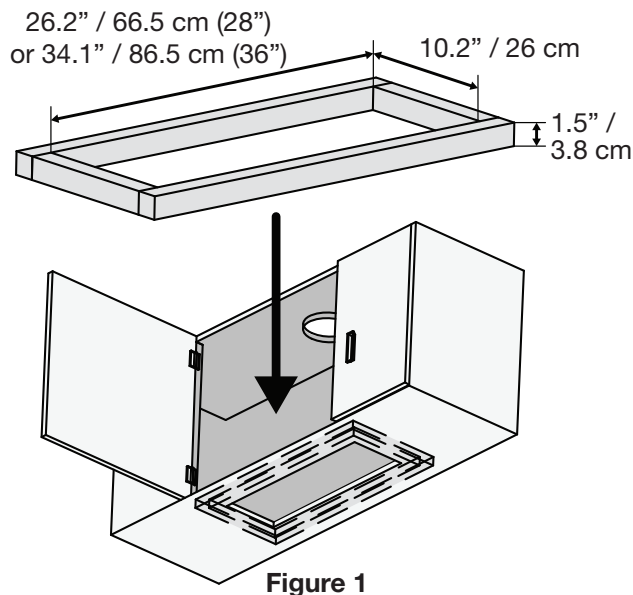

Figure 1
- The body of the hood should be mounted on front and rear wooden beam supports, as well as right and left wooden beam supports (see Figure 1).